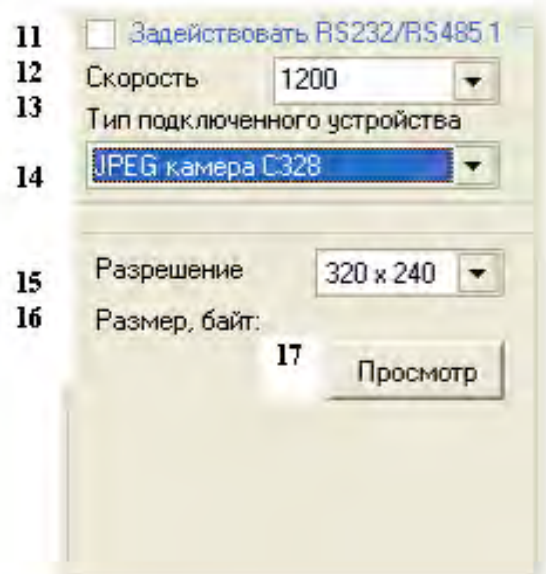

Figure 4.16
- **"Sensor (s) of fuel RS485"**. Digital or fuel sensors with the RS485 interface are compatible with the protocol Omnicomm (Figure 4.16). The setup process is described above in the description of **"Fuel sensor Omnicomm"**.